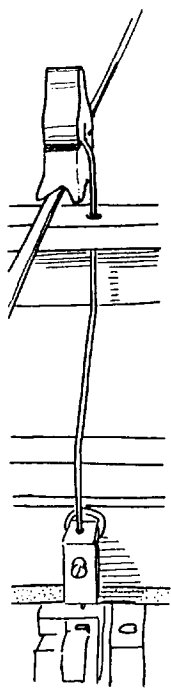

figure 2a
**Spacing the head over the string:** The head must be centered so felt contact is even on all chords of the unison, and the weight of the underlever and head is evenly distributed. Static spacing can be determined visually, looking at the dampers as they sit on the strings, and at the spaces between the dampers for evenness. The head is moved side to side by changing the bends at the top of the wire, nearest the head. The first bend is right at the head where the wire departs from the mortice. The second bend is usually about 1/8" away: it bends the wire so it is again parallel to the head and drops down through the guide rail. If the head needs to be spaced, the distance between these two bends is changed. I usually change bend #1 first, by grasping the head with the damper pliers and bending the wire so the felt is moved in the desired direction. For instance, in figure 2a, the head needs to move "away" from its own wire, so the wire is first bent so the lower edge of the